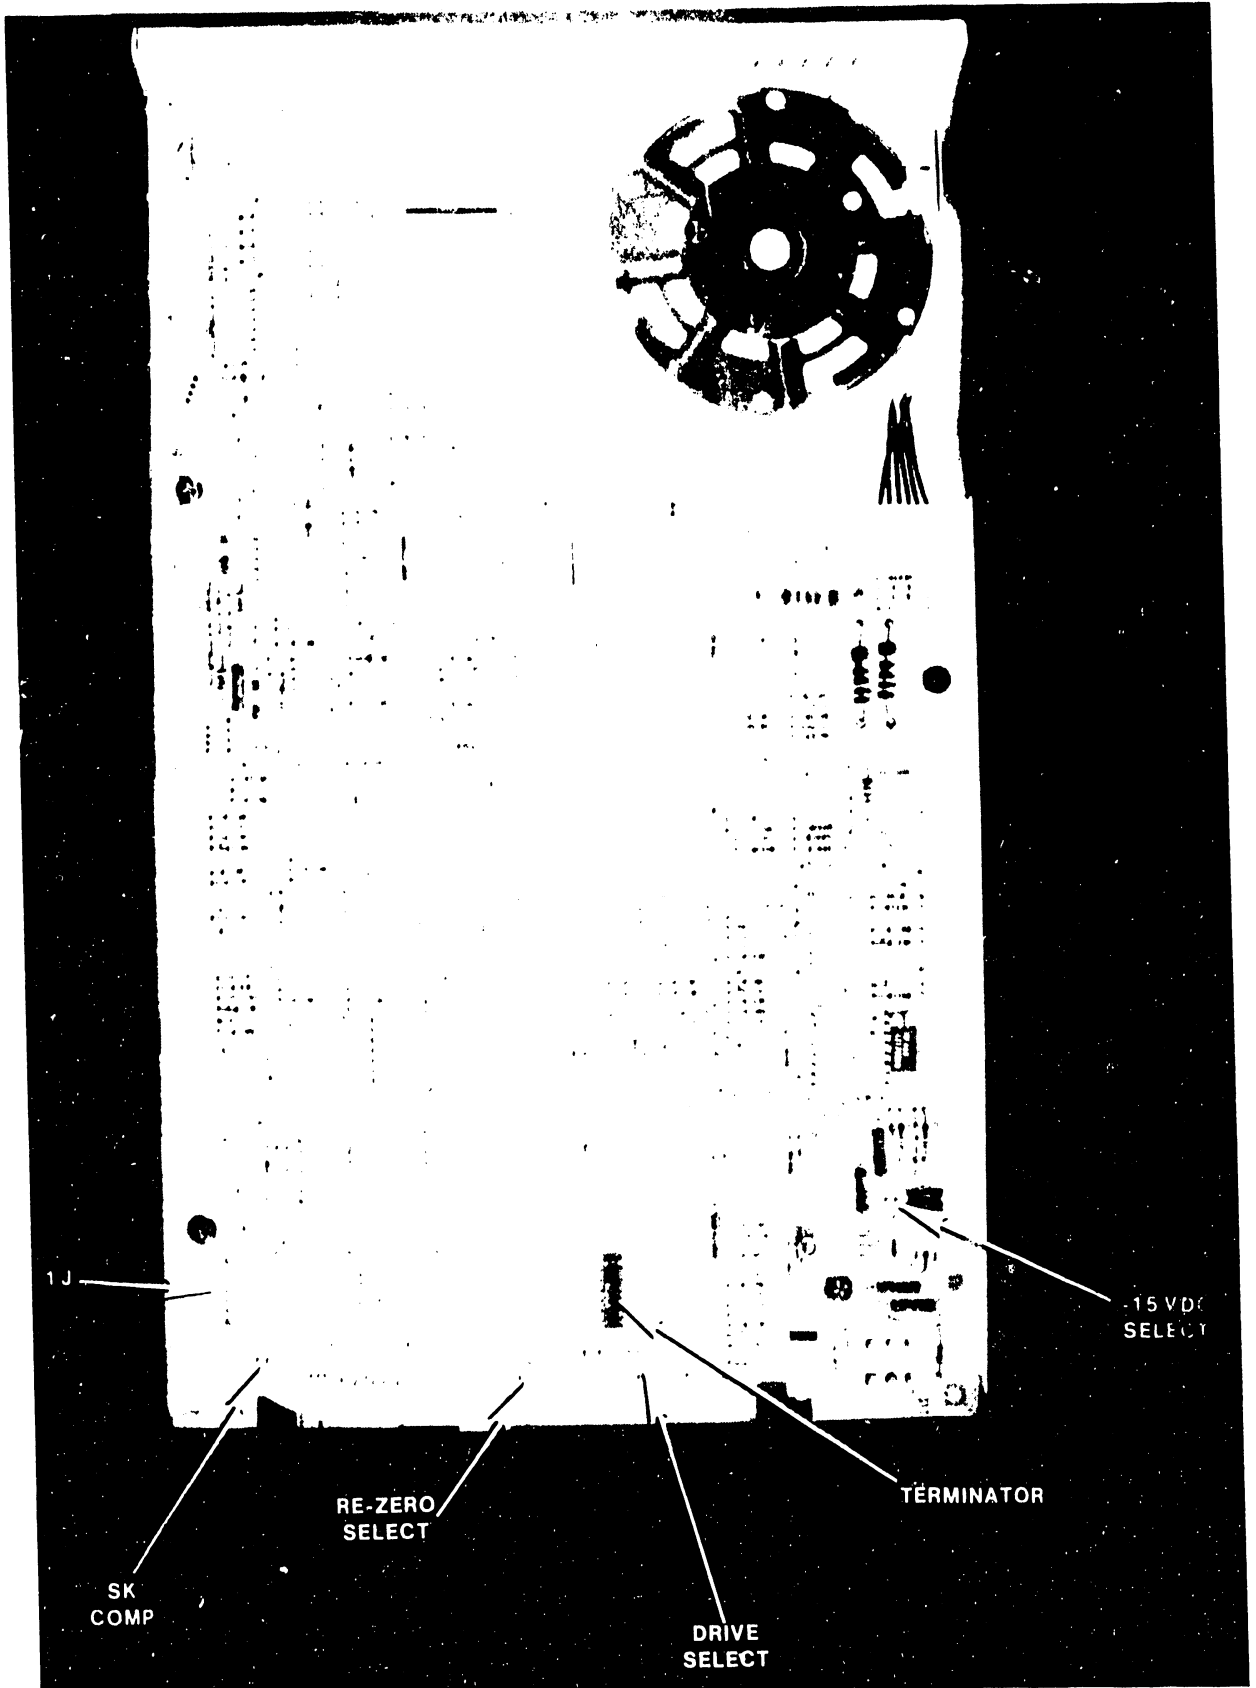

Figure 5-29. Quantum Drive Jumper Options
5. Before installing the drive, check the revision level, options jumpers, and the terminator IC of the Quantum Drive Control PC board (Quantum #20-2000). They should be as follows. (See figure 5-29.)